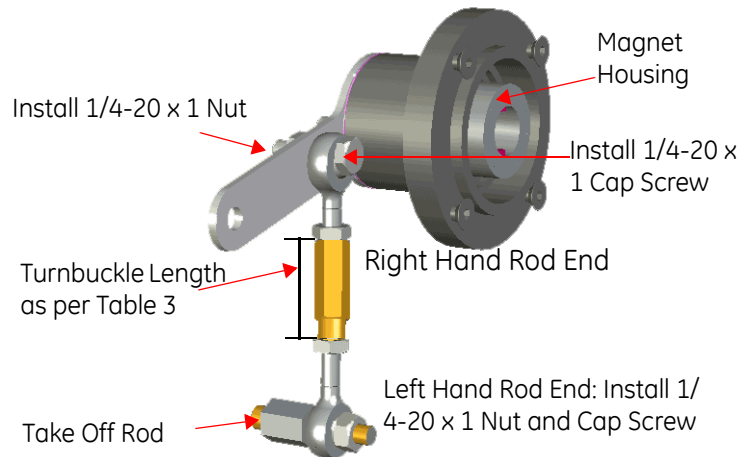

Figure 19 SVi1000 Take Off Rod Mounting
4. Thread the take-off rod to the actuator stem connector (Figure 19).
5. Attach the right hand threaded rod end to the lever using a 1/4 - 20 x 1" cap screw and nut (Figure 19).
10. Thread the turnbuckle onto the left hand threaded rod end (Figure 19).
11. Adjust the turnbuckle until the hole in the lever is aligned with the alignment hole in the bracket. Tighten both turnbuckle lock nuts (Figure 19).